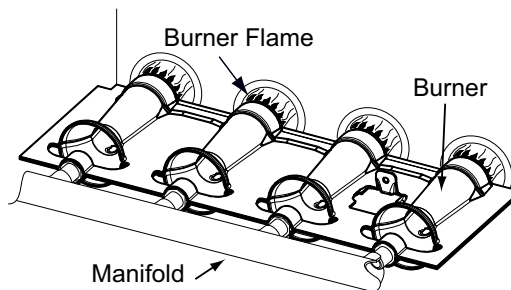

Fig. 61 - Burner Flame
8. Reverse items 6 through 1 for reassembly.
11. Check furnace operation through 2 complete heat operating cycles. Look at burners. Burner flames should be clear blue, almost transparent. See Fig. 61.